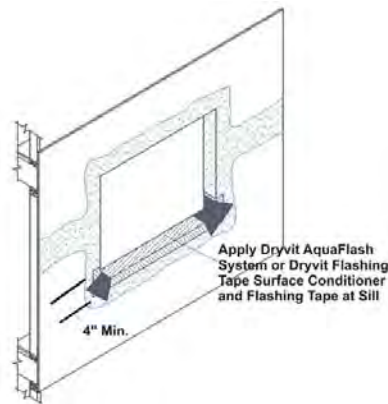

Figure 10
- 3) Apply Dryvit AquaFlash System or Flashing Tape at sill in accordance with Sections IV.A.3 and IV.C respectively. **NOTE: AquaFlash System or Flashing Tape must extend up the jambs a minimum of 102 mm (4 in) – Figure 10.**